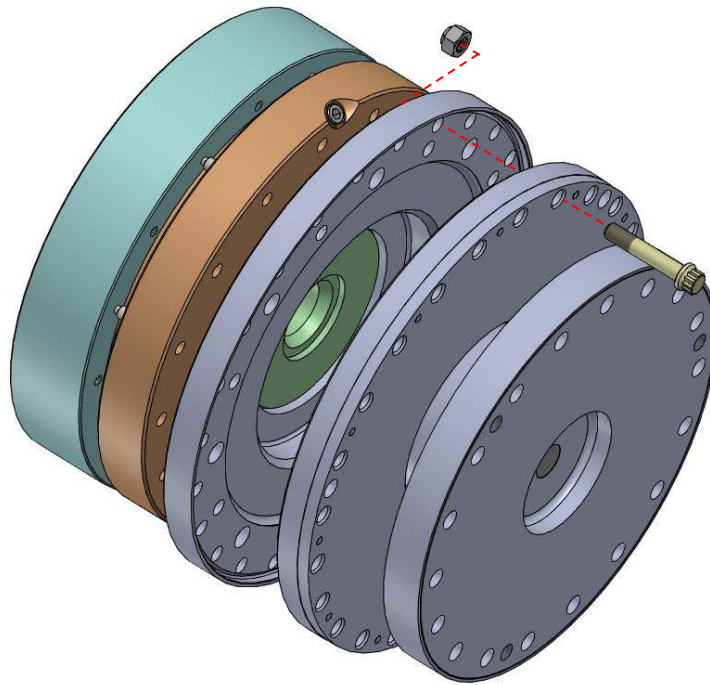

Figure 8 – Flex Assembly Installation on Hub Flange
4.1.1 Install one flex assembly onto the hub as shown in Figure 8 aligning the holes using Qty (4) bolts and nuts spaced 90 degrees apart. Tighten the bolts/nuts a few turns at a time in a criss-cross pattern to seat the pilot evenly. Install the remaining bolts and nuts and torque evenly in a criss-cross pattern to the torque shown on drawing HC-10326.